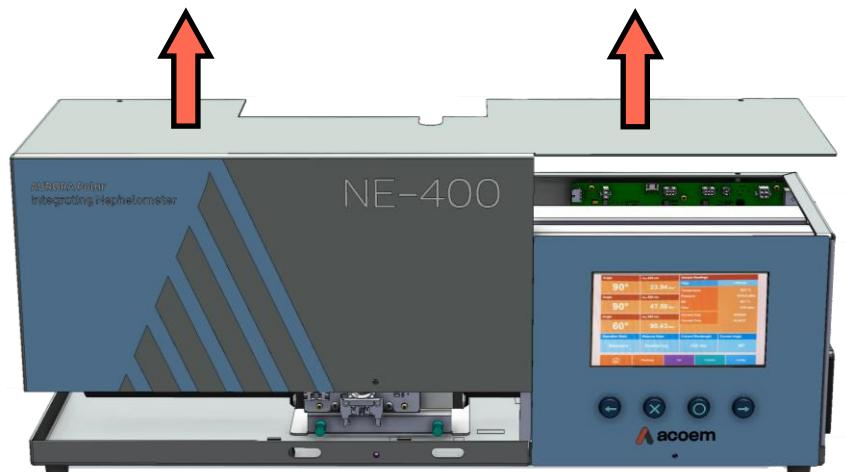

Figure 23 – Removing the Lid
4. Refer to Figure 23. Lift the lid vertically and evenly upwards until it is clear of the chassis.